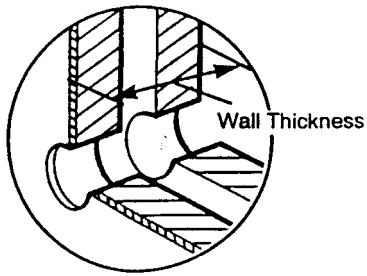

Fig. 61
3. Measure the wall thickness and from this dimension subtract 10mm ( 3/8 in) (Fig. 61).